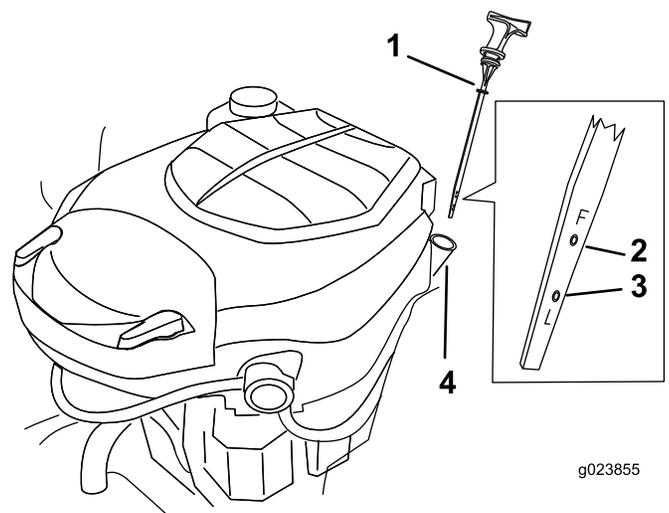

Figure 29
4. Remove the dipstick; wipe oil off (Figure 29). Reinsert the dipstick into the tube.
- Pull the dipstick out and check the oil level. (Figure 29).
- Remove the oil fill cap/dipstick (Figure 29).
13. Slowly pour approximately 80% of the specified oil into the filler tube (Figure 29).
14. Install the oil fill cap/dipstick (Figure 29).
15. Check the oil level (Figure 29); refer to Checking the Oil Level.
17. Install the oil fill cap/dipstick (Figure 29).